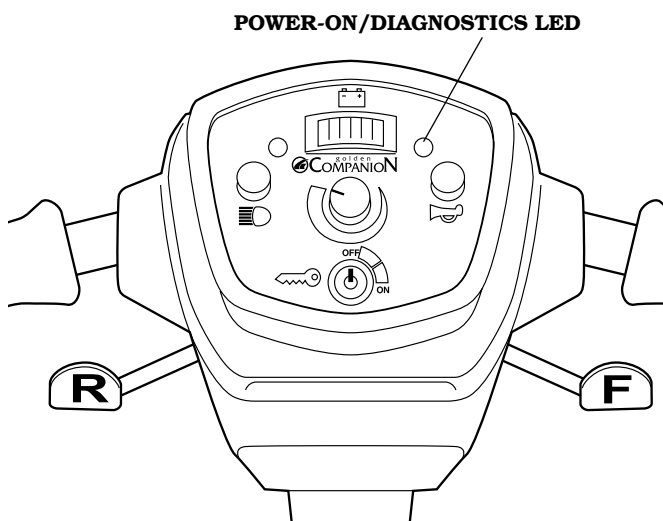

FIGURE 43. CONTROL PANEL DIAGNOSTICS
- Any fault condition on the "Rhino" controller or on an associated system will cause the Power-on/diagnostics LED (see figure 43) to flash.